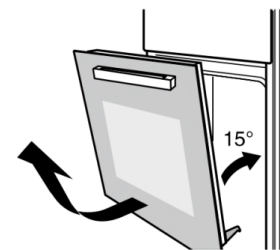

Figure 2
- ② Close the oven door, at about 15 degree, then lift the door, and slowly pull out from the oven.(Figure 2)
- ③ After cleaning, perform the above-mentioned operations in the opposite steps to restore the door to its original condition.